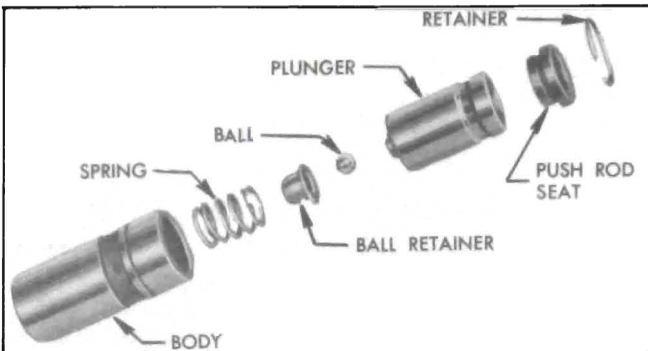

Figure 2-24—Hydraulic Valve Lifter Parts
2. Hold plunger in vertical position with feed hole up, then rinse and install the check ball, ball retainer, spring, and body over the plunger. See parts in figure 2-24.